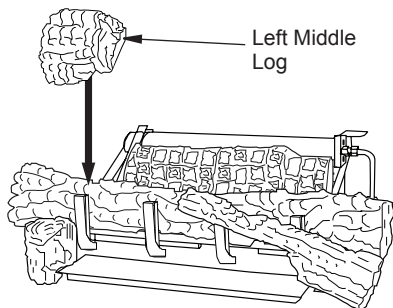

Figure 26 - Installing Left Middle Log
- The left middle log (18" D-066, 24" & 30" D-040) has a groove on the bottom to sit on the chassis and has to sit on the tab on the back of the left front log as shown in Figure 26.